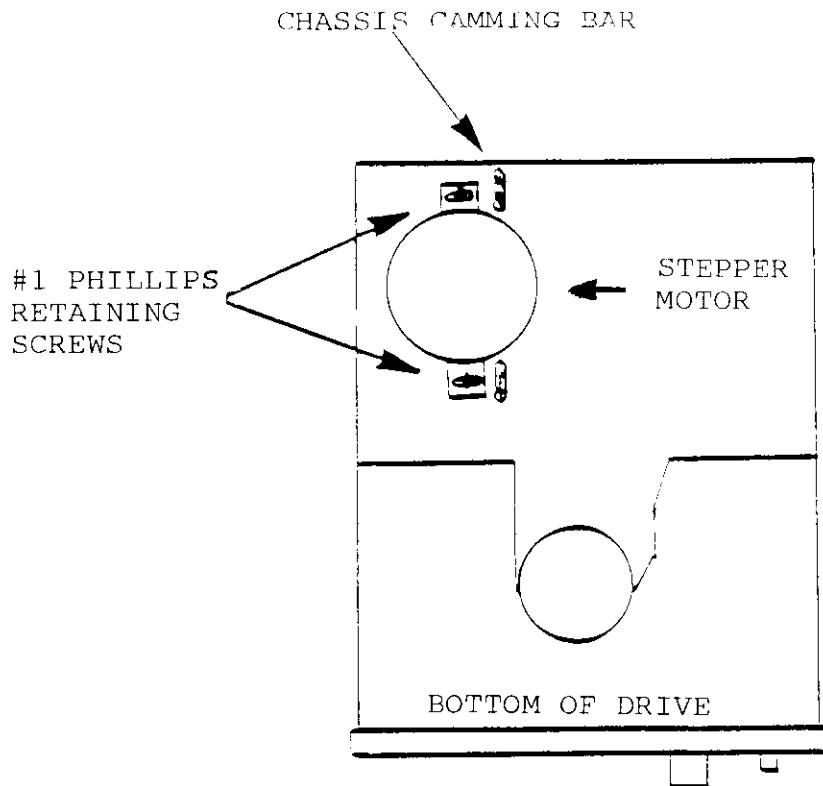

FIGURE 5-7
1. Loosen the two Number 1 Phillips retaining screws on stepper motor (see Figure 5-7).